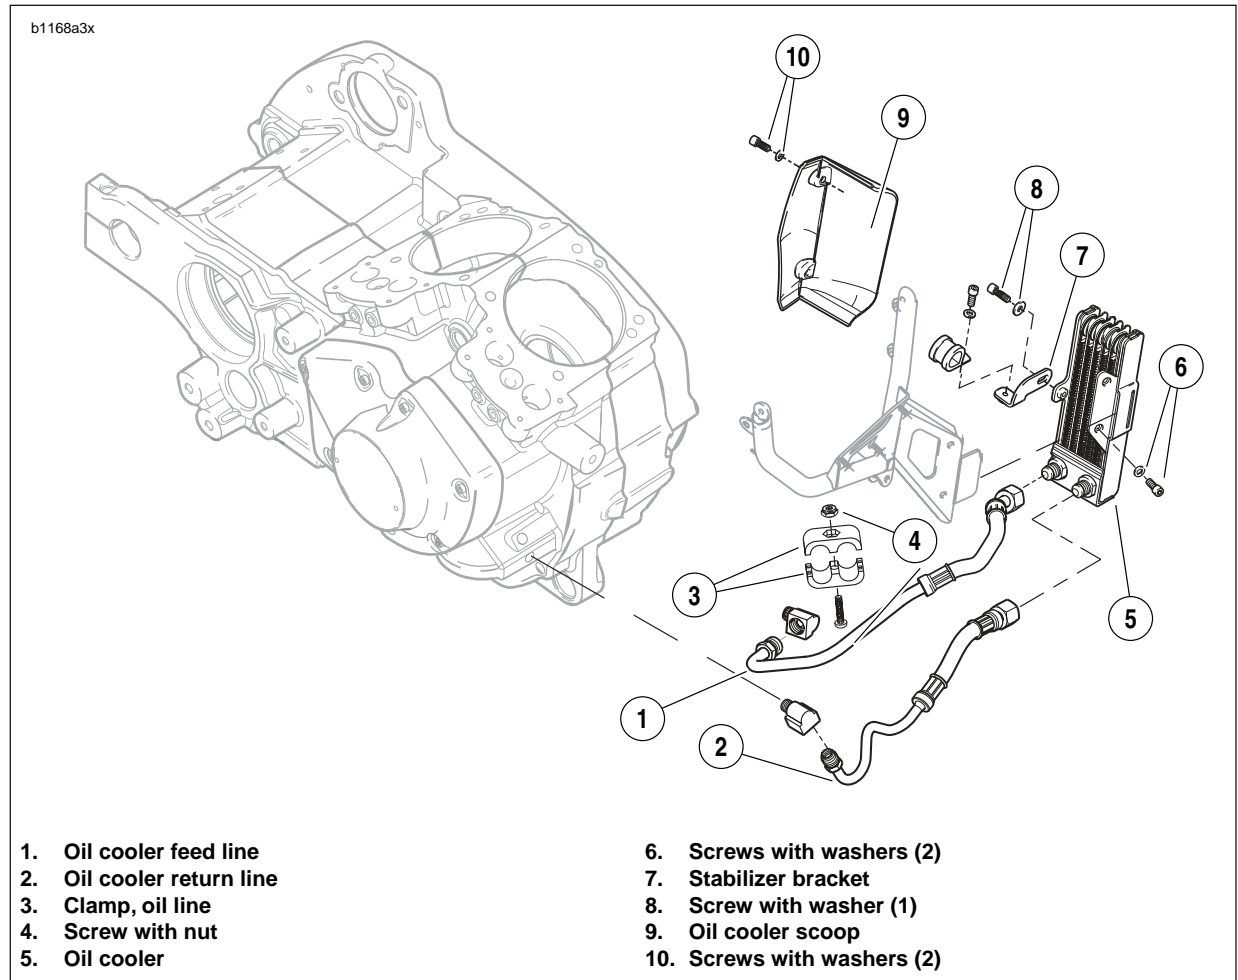
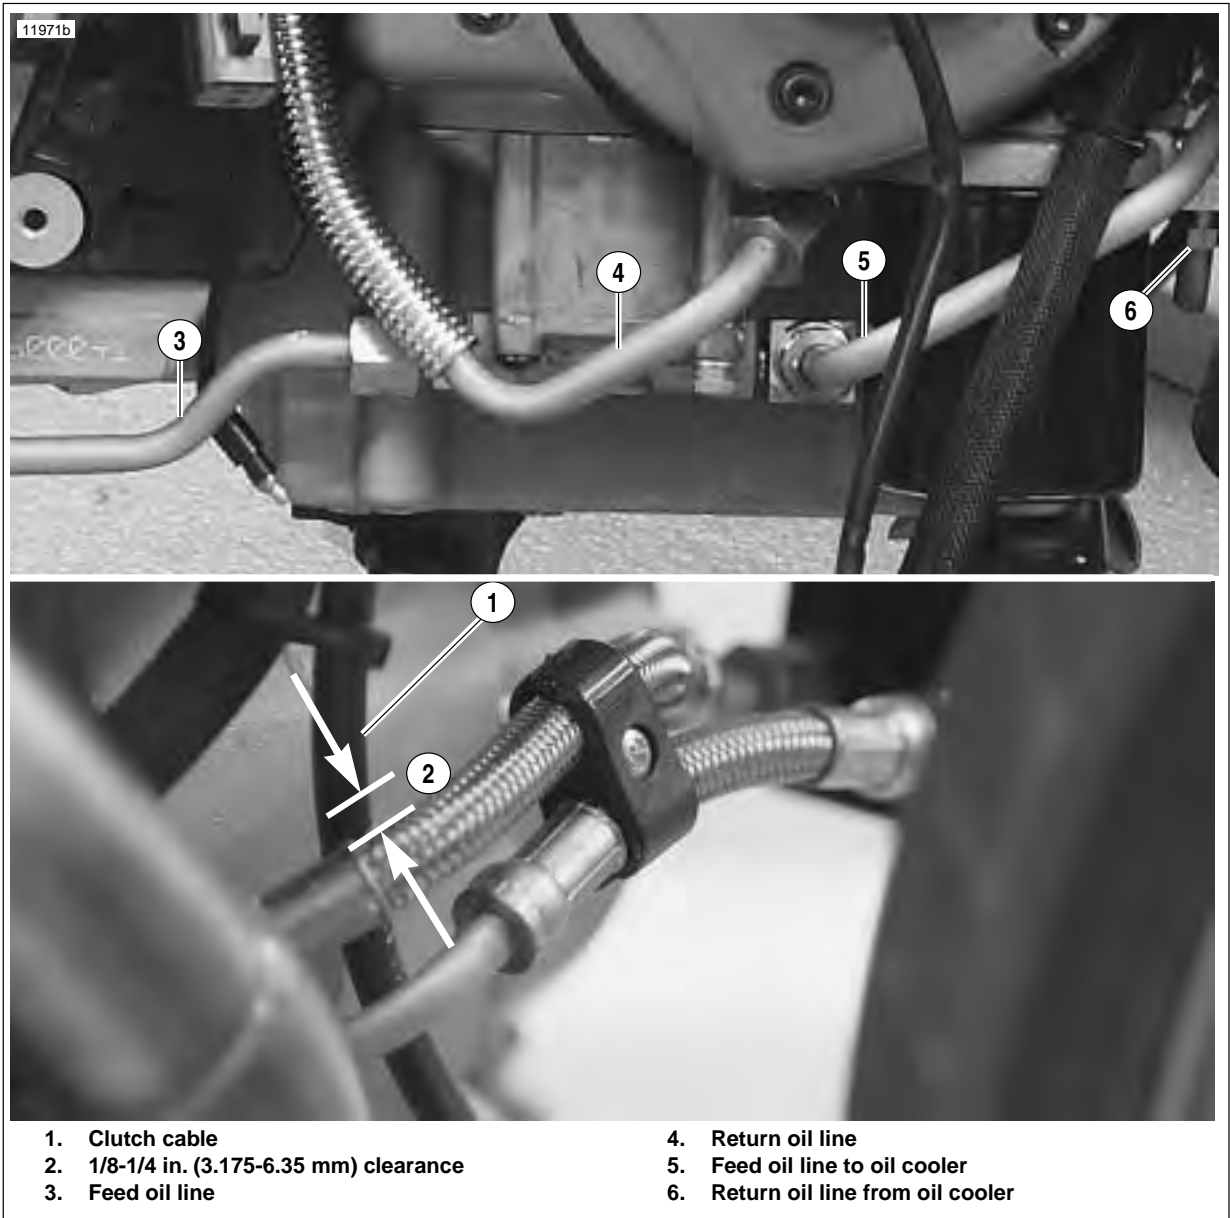

Figure 3-110. Oil Cooler
Figure 3-111. Oil Cooler Feed Oil Line Orientation (Approximately 2 O'Clock) and Oil Line Clearances
3. See Figure 3-110. Remove clamp (3) from oil cooler oil lines.
4. Loosen oil cooler return line (2) at oil cooler. Do not disconnect.
5. Loosen oil cooler feed line (1) at oil cooler. Do not disconnect.
6. Remove two fasteners (10) securing the oil cooler scoop (9) and remove scoop.
1. See Figure 3-110. Lightly coat the threads of the oil cooler fittings with clean H-D 20W50 engine oil. Wipe off any excess oil.
3. After the oil cooler is in place, apply LOCTITE 271 to the two fasteners (6) and tighten to 96-108 **in-lbs** (10.8-12.2 Nm).
4. Install the stabilizer bracket fastener (8) and tighten to 66-78 **in-lbs** (7.5-8.8 Nm).
5. Install oil cooler scoop and apply Loctite 271 to the two fasteners (10) and tighten to 48-72 **in-lbs** (5.4-8 Nm).
8. See Figure 3-111. Verify that the clutch cable and feed line have a clearance of 1/8-1/4 in. (3.175-6.35 mm) between them.